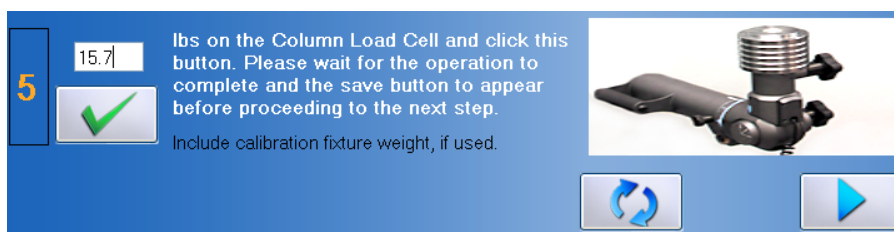

Figure 9-31. Column Load Cell - Verify the Weight
Step 6. Remove both of the calibration weights and then place the 15 lb calibration weight back on the calibration disk. Type **15.7** in the text field (Figure 9-31).
Step 7. Click on  to verify the weight (Figure 9-31).